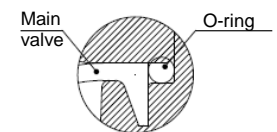

Figure 11. O-ring position
- After installation, make sure that the O-ring is fully seated in the groove (see Figure 11). If the O-ring has fallen out of the groove, it may cause external leakage or malfunction.